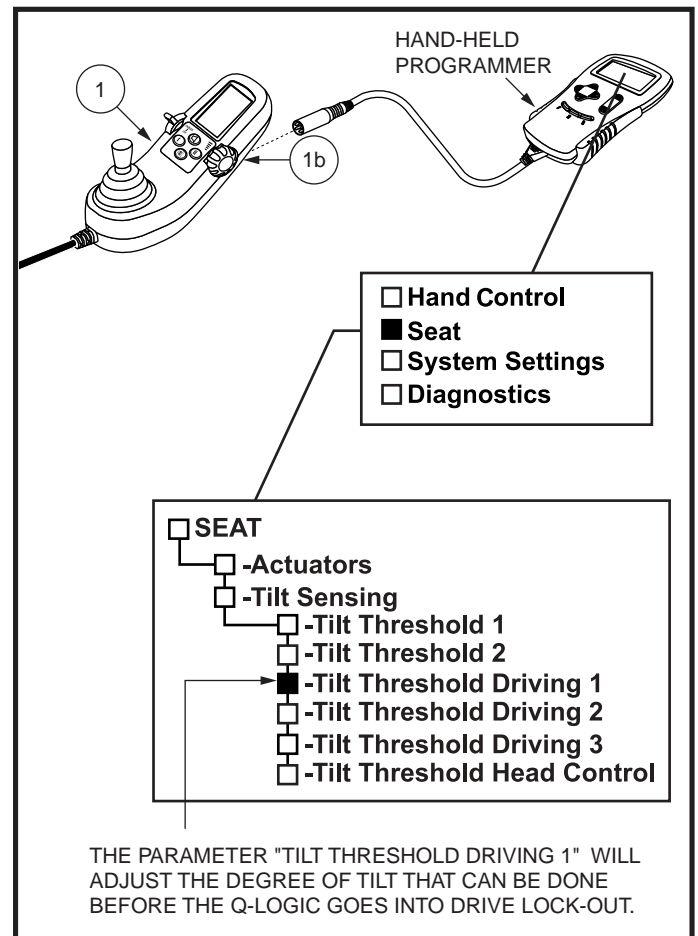

Figure 6. Q-Logic Joystick and Programmer
3. Check the programming for tilt threshold driving 1. This is the degree of tilt before drive function is locked out. 25 degrees is standard. **See programmer's text. See figure 6.**